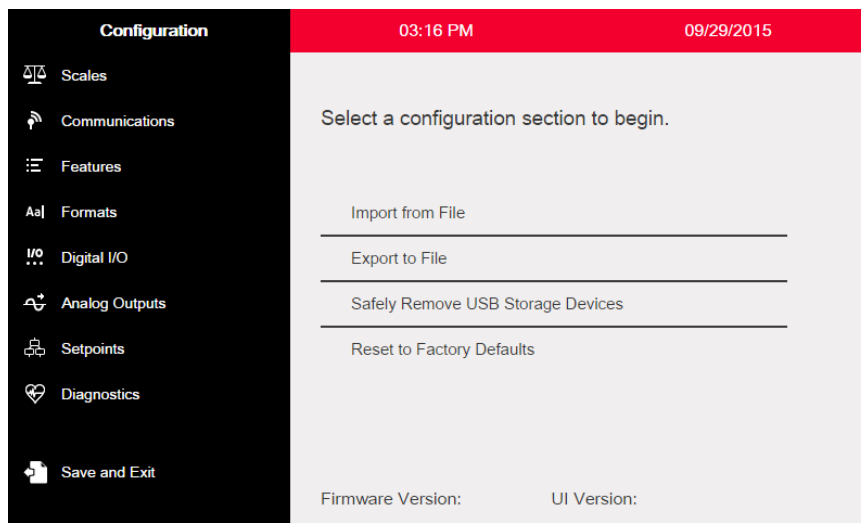
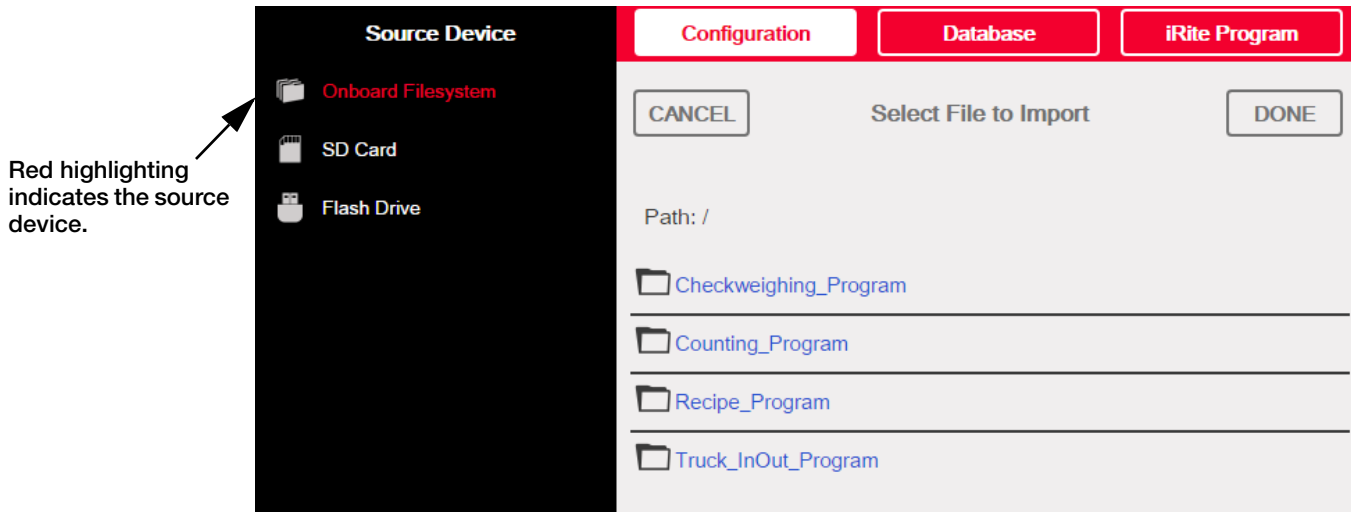

Figure 13-1. Configuration Main Menu
Figure 13-2. Import Configuration
Note The Import Configuration screen looks the same whether importing from an Onboard Filesystem, an SD Card or a flash Drive. The only difference is that the source device will be highlighted in red on the left side of the screen. For an example, in Figure 13-2, a file is being imported from an Onboard Filesystem.
2. Press **Import from File**. See Figure 13-1. The Import Screen (Figure 13-2) will display. Load both the .rev and .cod files to use the built-in application programs.
4. Select **Import from File** (see Figure 13-1). The Import Screen (Figure 13-2) will display.
2. Press **Import from File**, see Figure 13-1. The Import Screen (Figure 13-2) will display.
2. Press **Import from File** from above diagram, see Figure 13-1. The Import Screen (Figure 13-2) will display.